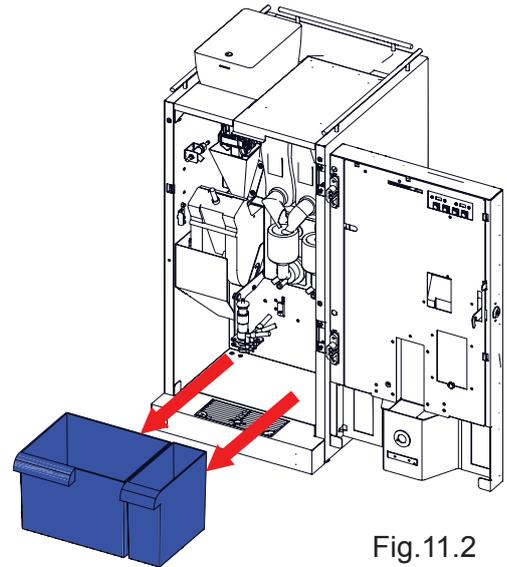

Fig.11.2
11.2.1.3 Waste containers (see fig. 11.2)
4. Disassemble, clean and assemble the cappuccinatore (see fig. 11.2):
- 1 by simultaneously turning and pulling on the part (1);
- then simultaneously turning and pulling on the part (2);